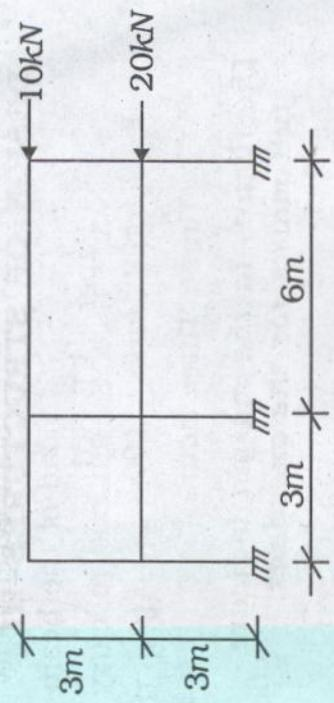

Fig. 2
2. (a) Analyze the frame shown in Fig. 2 by Portal method. And draw the axial force diagram, bending moment diagram and shear force diagram.